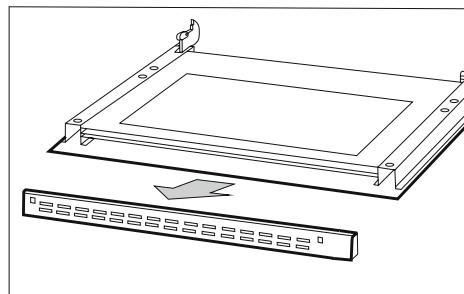

Fig. 5
1. Use a Phillips screwdriver to remove the screws on the side clamps (Fig. 5).
2. Remove the clamps with a flat screwdriver and remove the upper door bar (Fig. 5, 6).